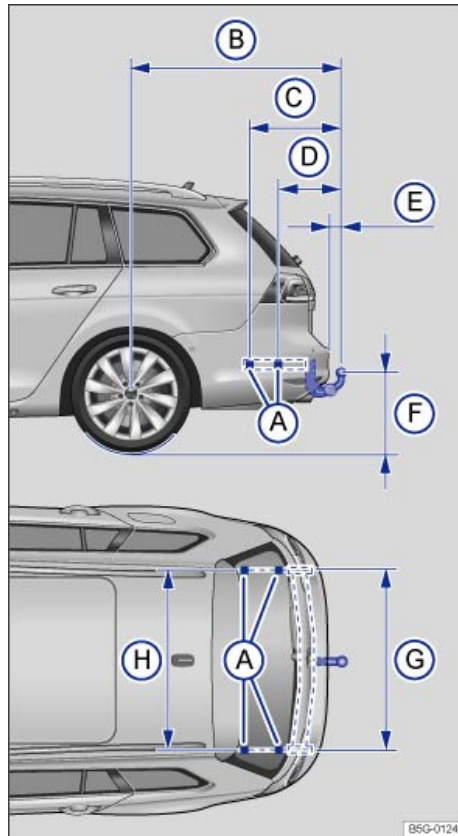

Fig. 104 Dimensions and attachment points for retrofitting a trailer hitch.
⇒ fig. 104 (F) be less than the specified minimum. This minimum height must be present even when the vehicle is fully loaded and subject to the maximum tongue weight.
Distance dimensions ⇒ fig. 104: